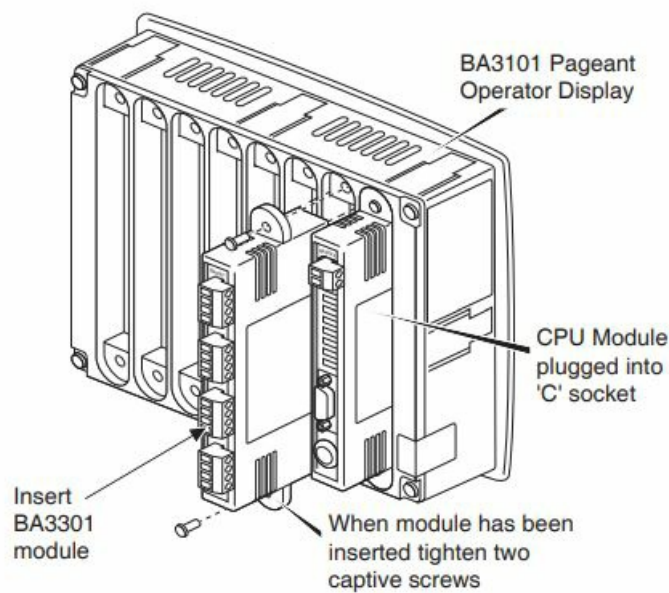

Fig 2 Inserting BA3301 AI module into one of seven sockets
3. To install the BA3301 module, fit it into one of the seven sockets at the rear of a BA3101 Pageant Operator Panel, as shown in Fig 2.
The BA3301 plug-in module should be fitted into one of the seven sockets at the rear of a BA3101 Pageant Operator Panel as shown in Fig 2.